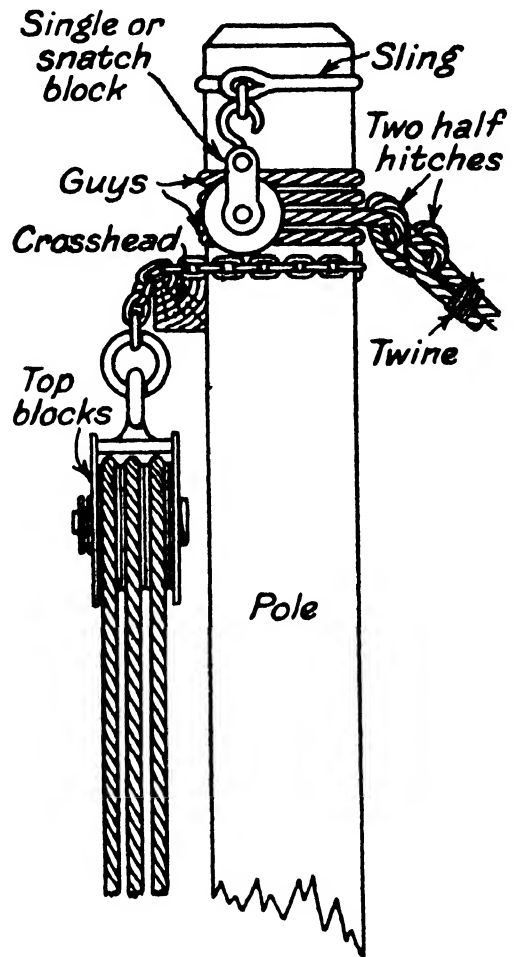

FIG. 3.—Method of Dressing a Derrick-pole (top).
**The Crosshead.**—Across the pole at the height decided, which may be near the top as shown in Fig. 3, or some few feet down, a crosshead is secured by nails or bolts. This crosshead is a piece of timber, say 1 ft. long by 3 in. square, and its function is to hold the blocks away from the pole, so that
**Guys.**—Four guy ropes are customary, although three are quite sufficient when equally placed, to support the pole ; with four, the manipulation of the derrick is simplified. In addition to the four guys many erectors place one as an auxiliary to use when changing the guys from one stake to another. This spare guy need not be so strong as the main ones, and if preferred it can be reeved through a single-sheaved block fixed at the top of the pole as shown in Fig. 3, one end being made fast to the base. With this auxiliary arrangement, a bosun's chair can be used to permit a man to climb the pole for fixing the tackle after it is reared. This is preferred in those cases where the weight of the tackle is too much to conveniently erect the pole fully dressed. The fifth guy is there if needed for additional control when sheering over with a lift.